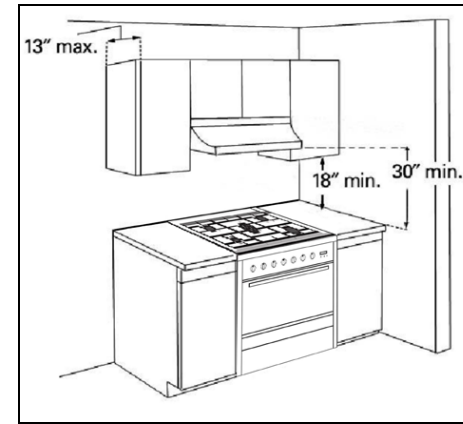

Figure 1
- **⚠** To eliminate the risk of burns or fire by reaching over heated surface units, cabinet storage space located above the surface units should be avoided. If cabinet storage is to be provided, the risk can be reduced by installing a range hood or microwave hood combination with minimum 400 CFM that projects horizontally a minimum of 5" (12.7 cm) beyond the bottom of the cabinets. (See Figure 1)
- **⚠** If a range hood is installed above the appliance, maintain a 30" minimum clearance between cooking surface and bottom of range hood. The range hood must be connected directly to flues or to the outside. (See Figure 1)
- **⚠** Avoid placing cabinetry directly above the appliance when possible. If cabinetry is used above the cooking surface, use cabinets no more than 13" deep. Make sure the wall coverings, countertop and cabinets around the appliance can withstand heat up to 200° F (93°C) generated by the appliance. (See Figure 1)
- **⚠** Cabinet opening dimensions that are shown must be used. Given dimensions are minimum clearances. (See Figure 1)
- **⚠** Working areas adjacent to the range should have 18" minimum clearance between countertop and cabinet bottom. (See Figure 1)